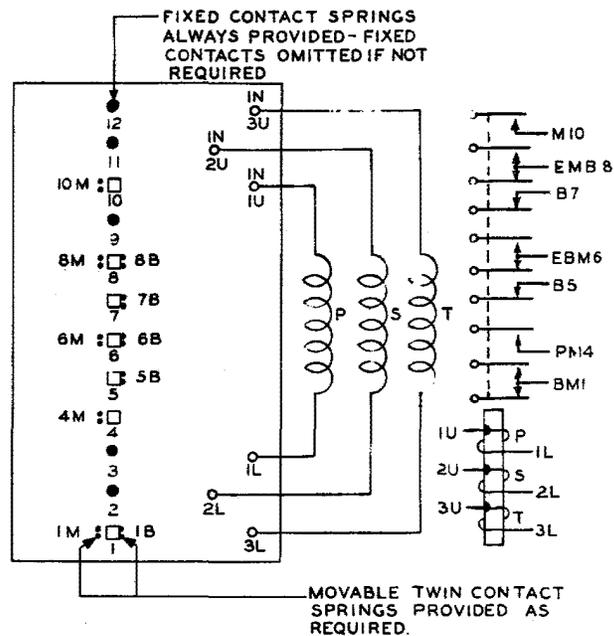
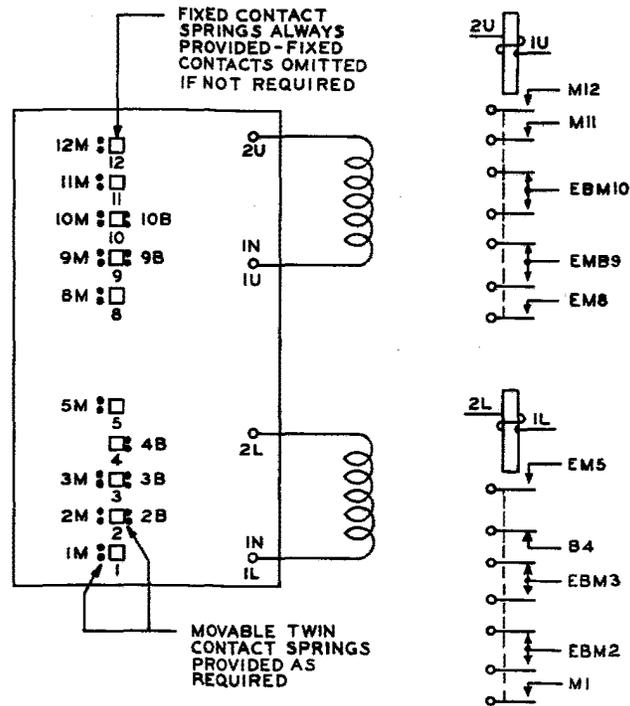

Fig. 8 - Winding and Contact Spring Arrangement as Viewed From the Front (contact side) — 12-Position AF-, AG-, AJ-, and AL-Type Relays
Fig. 12 - Winding and Contact Spring Arrangement as Viewed From the Front (contact side) — AK- and AM-Type Relays
(a) **12-Position Relays:** As viewed from the front of the relay, there are 12 contact positions arranged vertically. Each position has a single fixed spring and may or may not have movable make and/or break twin springs associated with it, since not all relays have a full complement of movable springs. The make springs are located to the left of the fixed springs and the break springs to the right as shown in Fig. 8. The fixed springs are numbered consecutively from 1 to 12, beginning at the bottom. The movable twin springs are numbered the same as their associated fixed springs with the appropriate suffix M (make) or B (break).
2.28 Winding Terminals: Winding terminals are provided as required and extend from the front of the relay, where test connections may be made, to the rear where the external wiring is connected. As viewed from the front, the winding terminals are arranged in two groups to the right of the core as shown in Fig. 8. Referring to the figure, the terminals in the upper group, on multiple-wound relays are designated 1U, 2U, and 3U; those in the lower group are 1L, 2L, and 3L. On single-wound relays the upper terminal is designated U and the lower terminal L. As viewed from the rear, the winding terminals are located to the left of the contact spring terminals and are designated the same as when viewed from the front.
2.29 Contact Springs (front view): As viewed from the front of the relay there are 10 contact positions arranged vertically in two groups of five each as shown in Fig. 12. The contact springs are numbered as if there were twelve positions as in the case of 12-position AF-, AG-, AJ-, or AL-type relays shown in Fig. 8. Positions 6 and 7 are omitted, this space being taken by part of the two cards of the relay. Each position has a single fixed spring and may or may not have movable make and/or break twin springs associated with it, since not all relays have a full complement of movable springs. The make springs are located to the left of the fixed springs and the break springs to the right. The fixed springs in the lower group are numbered consecutively from 1 to 5, beginning at the bottom. The springs in the upper group are numbered from 8 to 12. The movable twin springs are numbered the same as their associated fixed springs with the appropriate suffix M (make) or B (break).
2.31 Winding Terminals: Winding terminals are provided as required and extend from the front of the relay, where test connections can be made, to the rear where the external wiring is connected. As viewed from the front, the winding terminals are to the right of the relay core as shown in Fig. 12. The terminals for the upper coil appear near the top of the spoolhead and those of the lower coil near the bottom of the spoolhead, the four terminals being in a vertical line. The terminals of the upper coil are designated 1U and 2U from the bottom up, and those of the lower coil are designated 1L and 2L from the bottom up. As viewed from the rear, the winding terminals are located to the left of the contact spring terminals, and are designated the same as when viewed from the front.